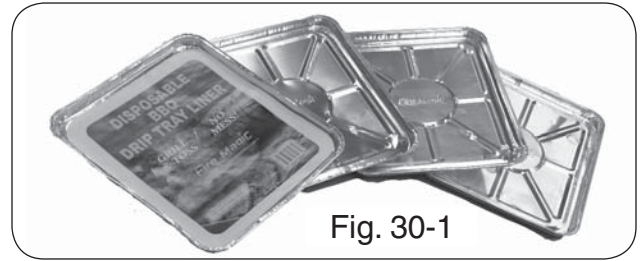

Fig. 30-1
Your grill includes a pack of four (4) Fire Magic® drip tray liners (Fig. 30-1). For your convenience in cleanup, place a liner into the drip tray before grilling.